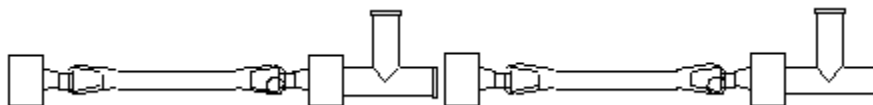

Figure 58. Connecting Two Manifold Pieces Together
- 3 Insert the Luer fitting on the end of one manifold piece onto the T-connector of the next piece (Figure 58) and twist until the two manifold pieces are connected firmly.